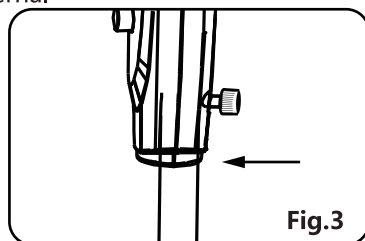

Fig.3
3. To attach the head unit to the internal pole, loosen the thumb screw at the bottom of the head unit. Place the head unit onto the internal pole and tighten the thumb screw. (Fig. 3)